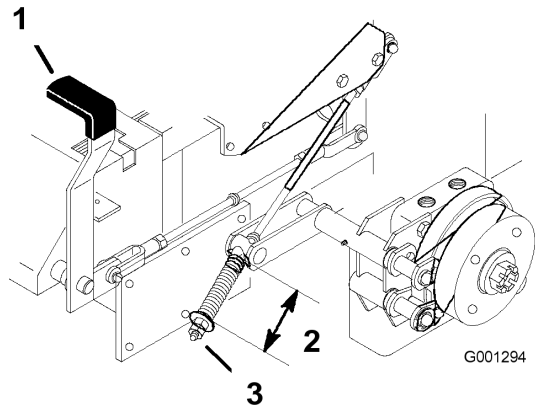

Figure 53
2. Measure the length of the spring. Measurement should be 2-1/2 inch (64 mm) between the washers (Figure 53).
3. If adjustment is necessary, release the parking brake, loosen the jam nut below the spring and adjust the nut directly below the spring (Figure 53). Turn the nut until the correct measurement is obtained. Turn the nut clockwise to shorten spring length and turn counter-clockwise to lengthen the spring.